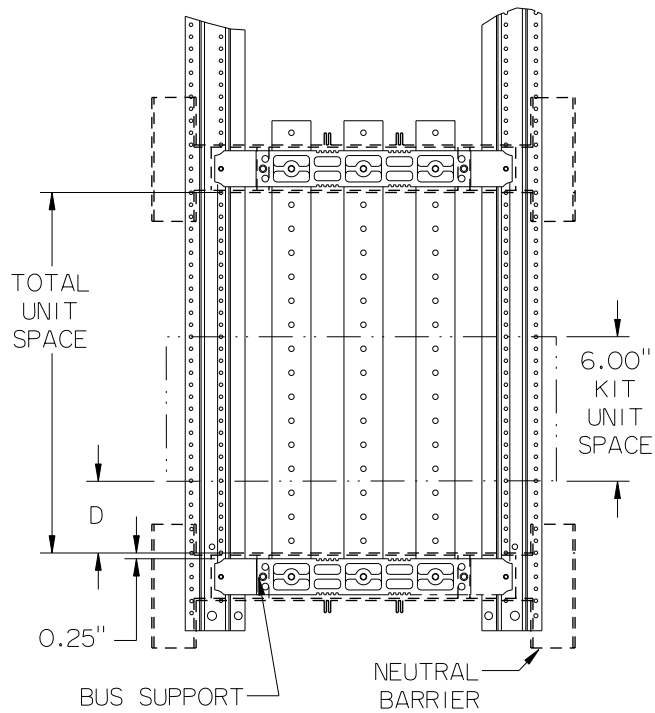

Figure 1
3. Refer to fig.1 - This kit requires 6" of branch unit space. Determine the location where the kit is to be installed. The kit positioning dimension D in fig. 1, must be a multiple of 3" (0", 3", 6", 9", etc.). This measurement can be taken directly from a neutral barrier, if present, or from a bus support in panels without a neutral. Note that 0.25" must be added to D for measurements taken from a bus support (0.25", 3.25", 6.25", 9.25", etc.)